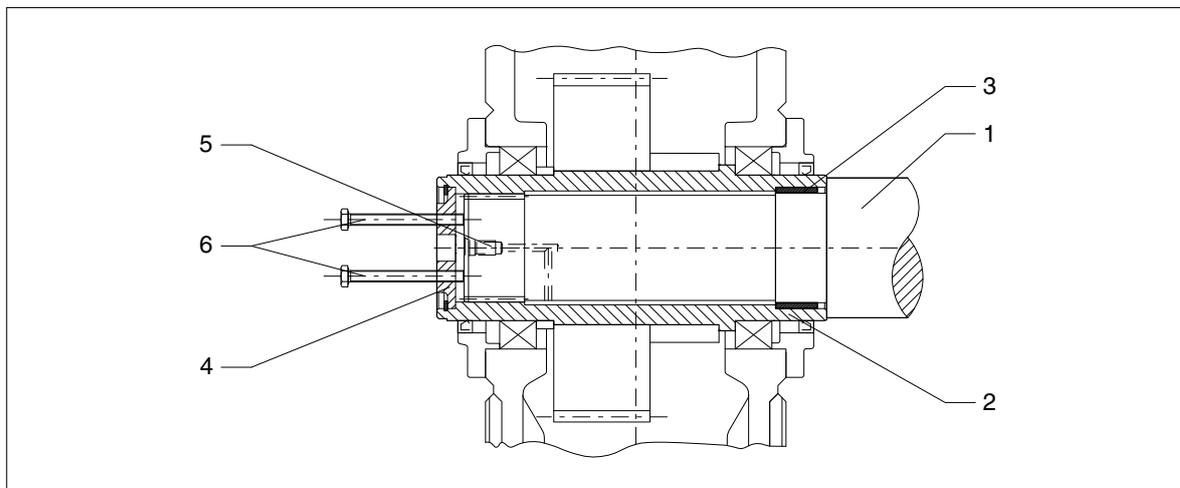

Fig. 40: Hollow shaft with internal spline, demounting with end plate
- using forcing screws in an end plate (see figure 40) or